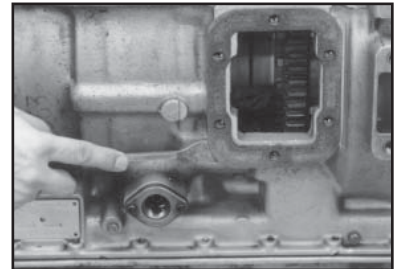

Figure 2
2. Discard the cover plate and cover plate gasket, then clean the aperture pad using a putty knife or wire brush (**Fig. 2**).